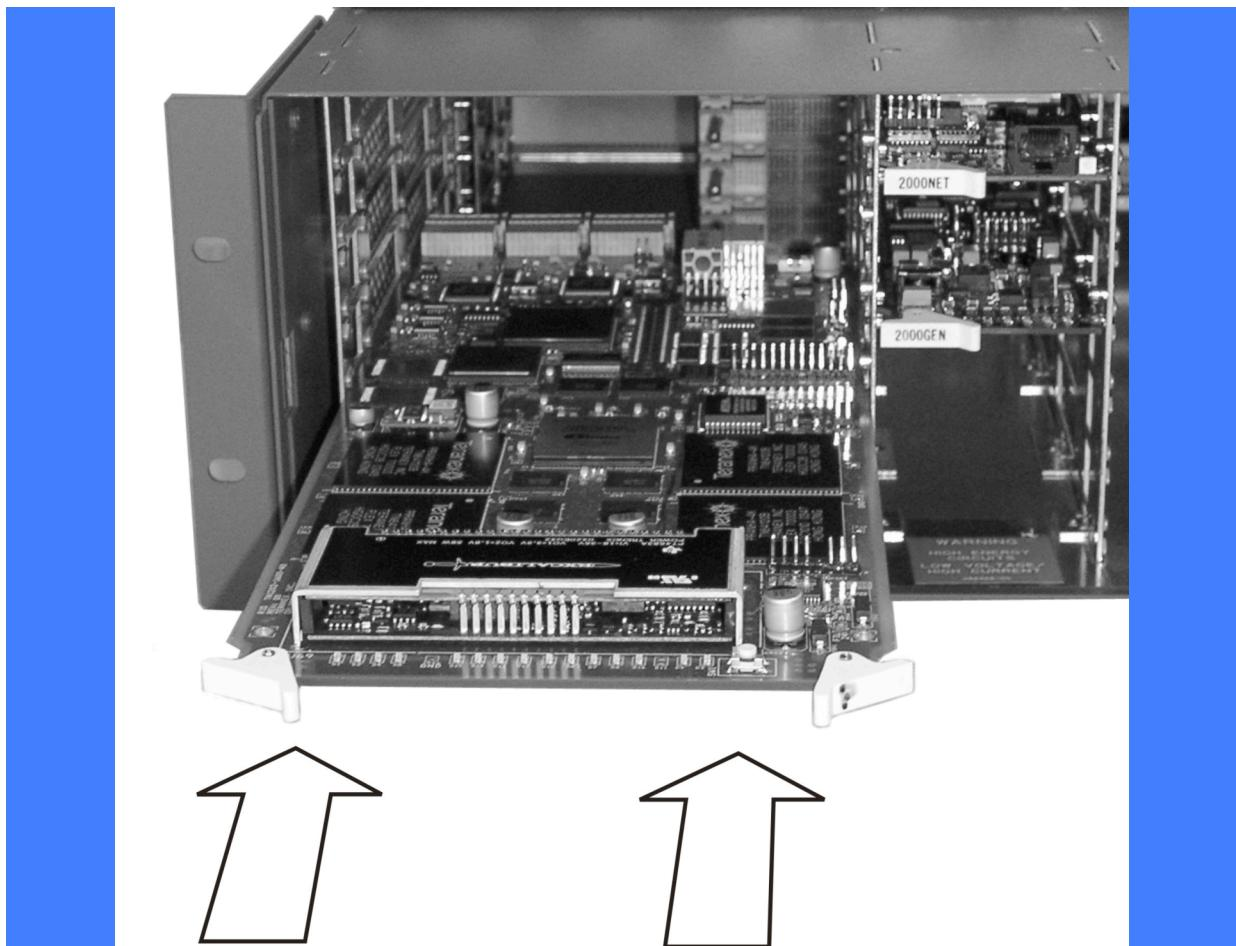

Figure 4 - Inserting XMR-MOD-1 module into Slot 4
6. With the component side up, insert the processing module in the corresponding front slot (see Figure 4). Note that since the rear module uses up two slot spaces, the processing module will need to be inserted in the lower of these two slots to connect to the rear module correctly.